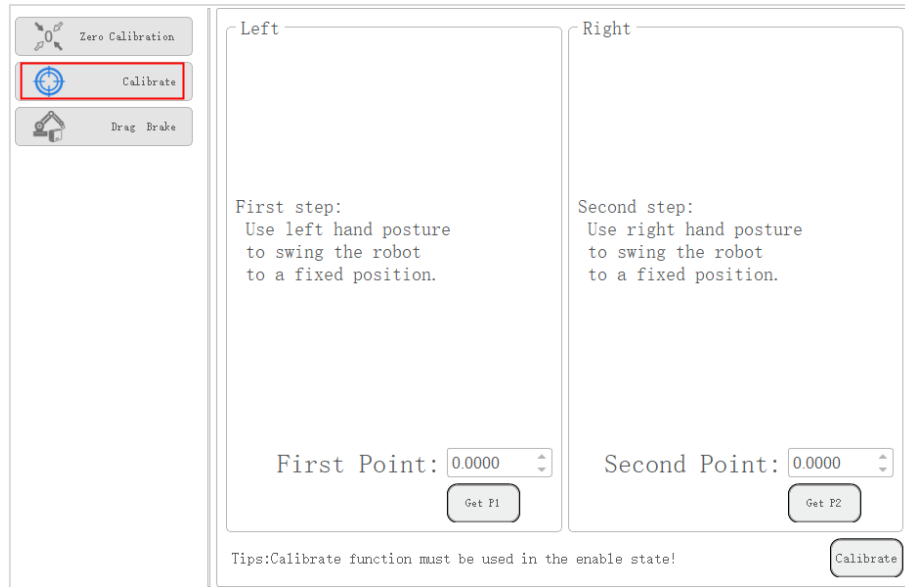

Figure 3.44 Calibrate
**Step 1** Click  > **Parameter** > **RobotSetting** > **Calibrate** to enter **Calibrate** interface, as shown in Figure 3.44.